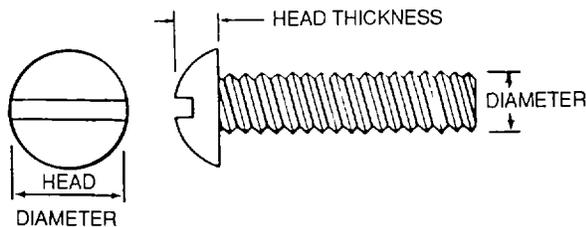

Figure 2-41. Round-Head Machine Screw
f. *Electrical Screws.* Use round-head machine screws, AN508, as shown in figure 2-41, for electrical use in such application as instrument installations where nonmagnetic qualities are desired.